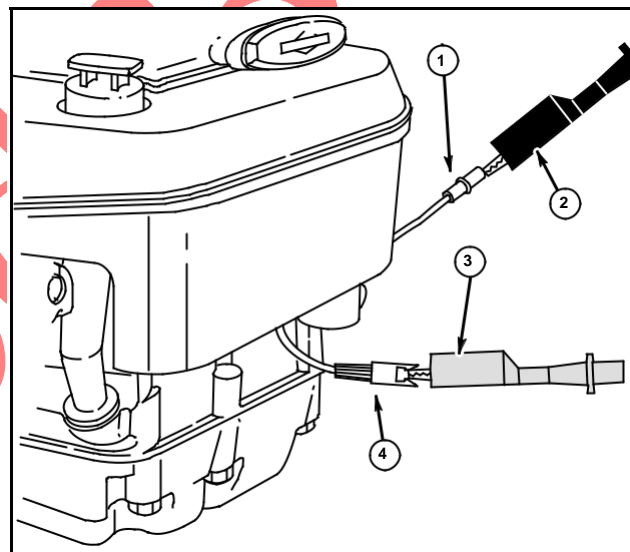
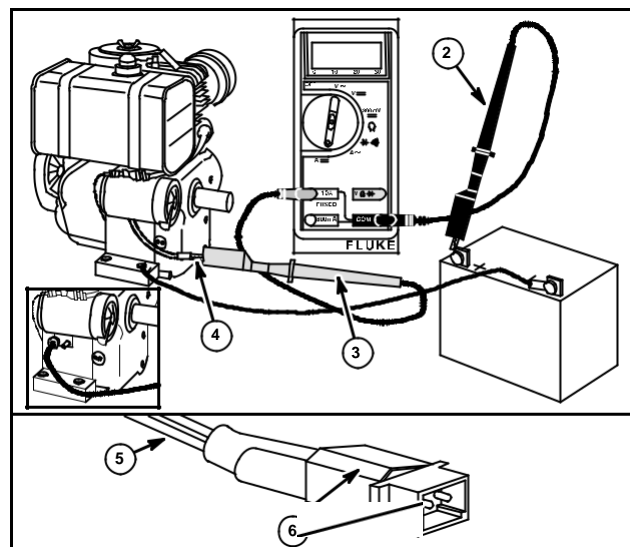

Fig. 16
Fig. 17
1. Insert RED test lead (3) into 10 A receptacle in meter.
2. Insert BLACK test lead (2) into COM receptacle in meter.
4. Attach RED test clip to stator output lead (4), Fig. 16 (Typical). See Fig. 17 for Dual Circuit alternator. The RED wire (5) is DC output. The bump on the connector indicates the DC output terminal (6)
5. Attach BLACK test clip (2) to the positive (+) battery terminal or charging harness lead (1).